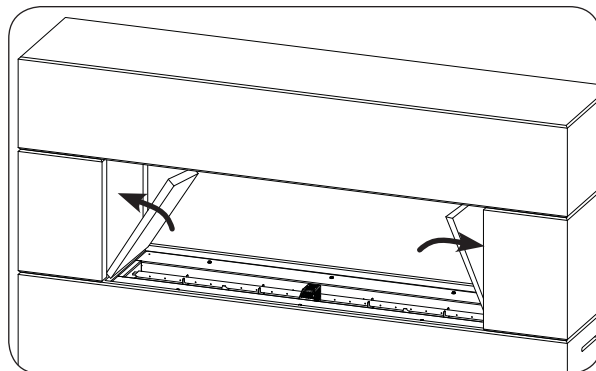

Fig. 21-1 Install side liners
1. Install a side liner into the interior of the firebox. See Fig. 21-1. Use masking tape to temporarily hold the liner in place. Repeat for the other side.